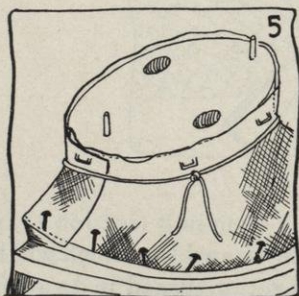

FIG. 5.
- a.* Read and follow Section 2 *a* through *f* of Job 3 (page 13). Do not use staples at edge, see Sections (1), (2), (3), and (4).
- (1) Leave a lap of $1\frac{1}{2}$ inches.
- (2) Use pins only, in finished woven edge of straw.
- (3) Keep woven edge exactly even with edge of block (see Figure 5). Be careful that pins do not pull the edge out of shape.